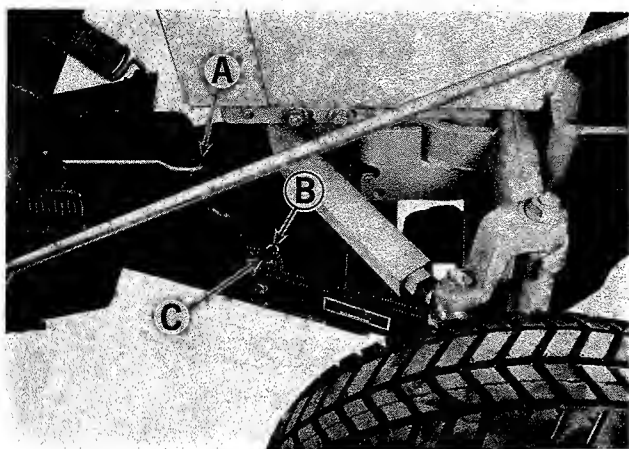

Figure 8. Hitch seen from the right side.
The Simplicity snow plow and dozer blade can be operated at any of five angular positions. See figure 8. Lock (A) is shown in the center notch which holds the blade perpendicular to the tractor frame. If the blade is locked in either of the two notches to the right of lock (A) the blade will be angled 15° or 30° to the right. The notches to the left of lock (A) can be used to angle the blade 15° or 30° to the left. The blade angles can be changed from the tractor seat by using the control arm (Figure 5, item A). Raise the snow plow and dozer blade so it is not resting on the ground surface. Use your left hand to grasp the control handle at (A) and rotate the handle clockwise. While holding the control handle clockwise, push it forward to angle the blade to the right, or pull it to the rear to angle the blade to the left. Allow the control arm to rotate counter-clockwise and move it slightly forward or back until the locking arm (Figure 8, item A) locks in the desired notch.
1. See figure 8. Remove spring clip (B) and remove rod assembly (C) from its storage location.